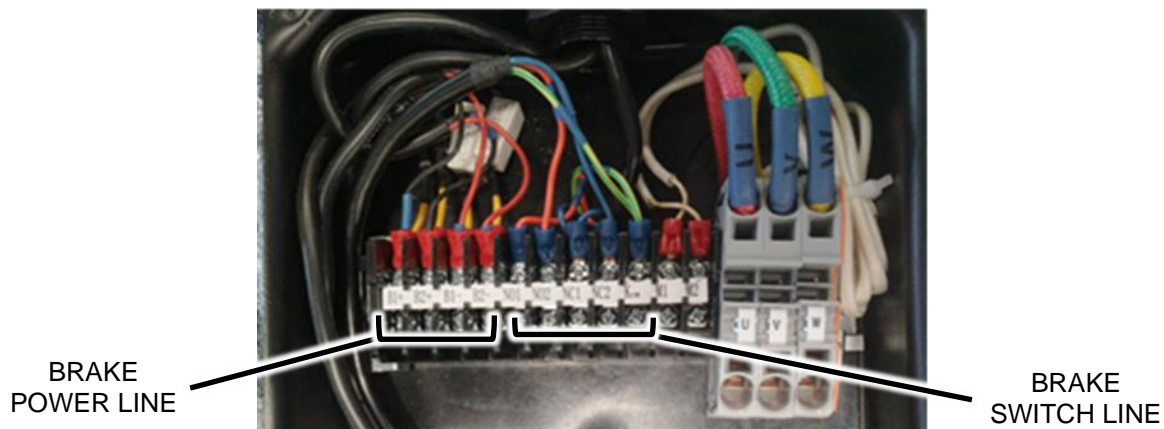

Figure 30
3. On the machine side disconnect the Brake and Brake Switch wires for the brake that is to be worked on (Figure 30).